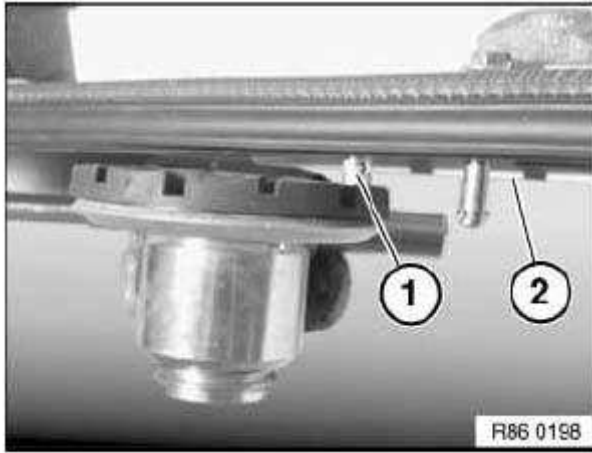

Fig. 31: Identifying Hood Pin
IMPORTANT: The hood may only be raised at the pin (1). Under no circumstances may the hood be raised at the GFP edge of the hood (2). See **Fig. 31**. Exclusively for removal of pin (1), raise the hood in the GFP area.